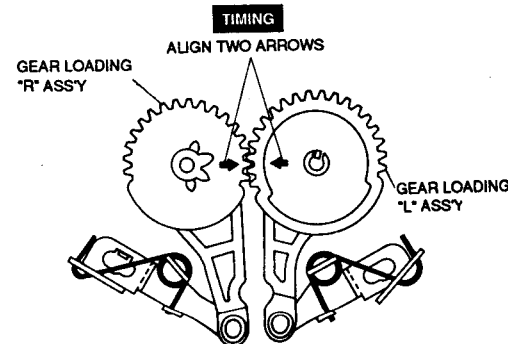

Fig. 49 Assembly of Gear Loading "L", "R" Ass'y
- 1) When reinstalling, be sure to align two arrows as shown in Fig. 49. (Refer to timing point)